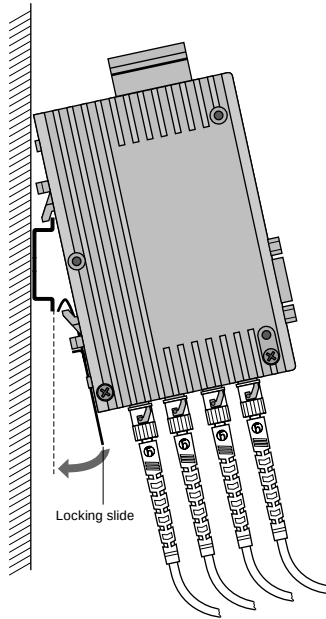

Fig. 7: Mounting a module on a standard hat rail
- Hang the top snap-in hooks of the module into the hat rail and press the underside onto the rail (as shown in Fig. 7) until it audibly clicks in.